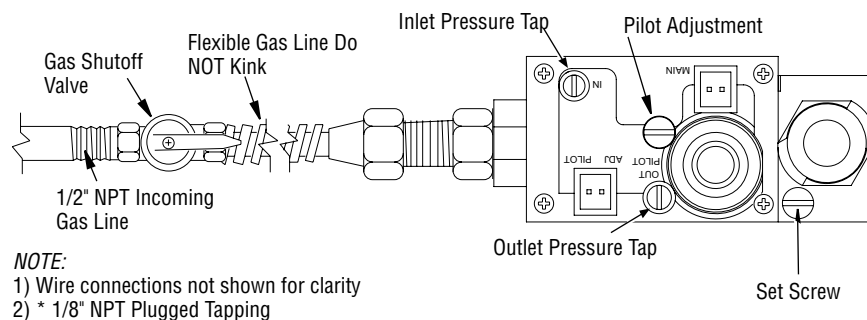

Figure 9 - Connecting Incoming Gas Line to Flex Gas Line
1. Apply pipe joint sealant lightly to male threads of the 1/2 NPT side of gas fitting elbow (provided) and connect to inlet side of gas control. Remove gas fitting from flexible gas hose (provided) before connecting to elbow (*see Figure 9*).